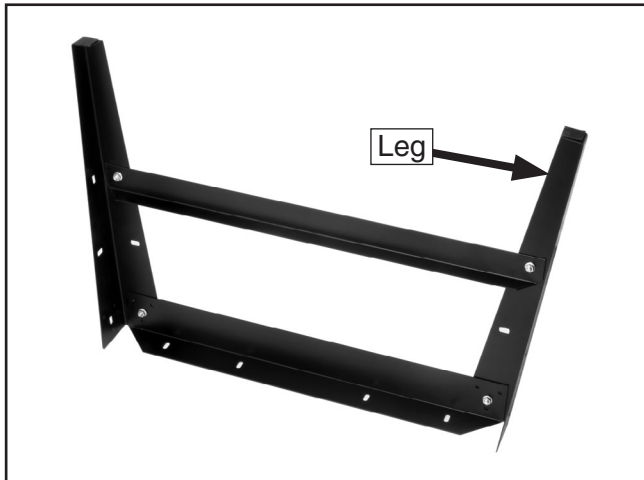

Figure 5. A completed stand leg assembly.
2. Secure a second leg to the top and bottom long brackets with two M8-1.25 x 15 carriage bolts and serrated flange nuts as shown in **Figure 5**.